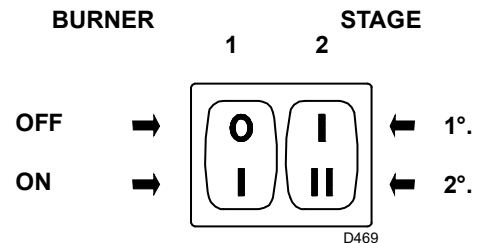
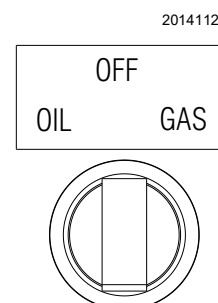

Fig. 30
Fig. 31
Keep the burner operating at 1st stage by setting the switch 2)(Fig. 30) to the 1st stage position. The fan damper can be adjusted by operating the orange level of the servomotor ("Servomotor adjustment" on page 31).
Turn switch 2)(Fig. 30) to the 2nd stage position. The fan damper can be adjusted by operating the red level of the servomotor ,("Servomotor adjustment" on page 31).
Start the burner by closing the remote controls, with the switch 1)(Fig. 30) in the "ON" position and with the fuel selector switch set to "OIL" (Fig. 31).
The pump can be considered to be primed when the light oil starts coming out of the screw 3)(Fig. 23 on page 22). Stop the burner: set switch 1)(Fig. 30) to "OFF" and tighten the screw 3).
- switch 1)(Fig. 30 on page 28) in **"BURNER ON"** position;
- switch 2)(Fig. 30 on page 28) in **"1st STAGE"** position;
Turn switch 2)(Fig. 30 on page 28) to the 2nd stage position: the servomotor will open the air damper on the value previously set for the light oil and will control the opening of the 2nd stage VR2 gas valve.
Turn switch 2)(Fig. 30 on page 28) to the 1st stage position: the servomotor will close the air damper on the value previously set for the light oil and will control the opening of the 1st stage VR1 gas valve.